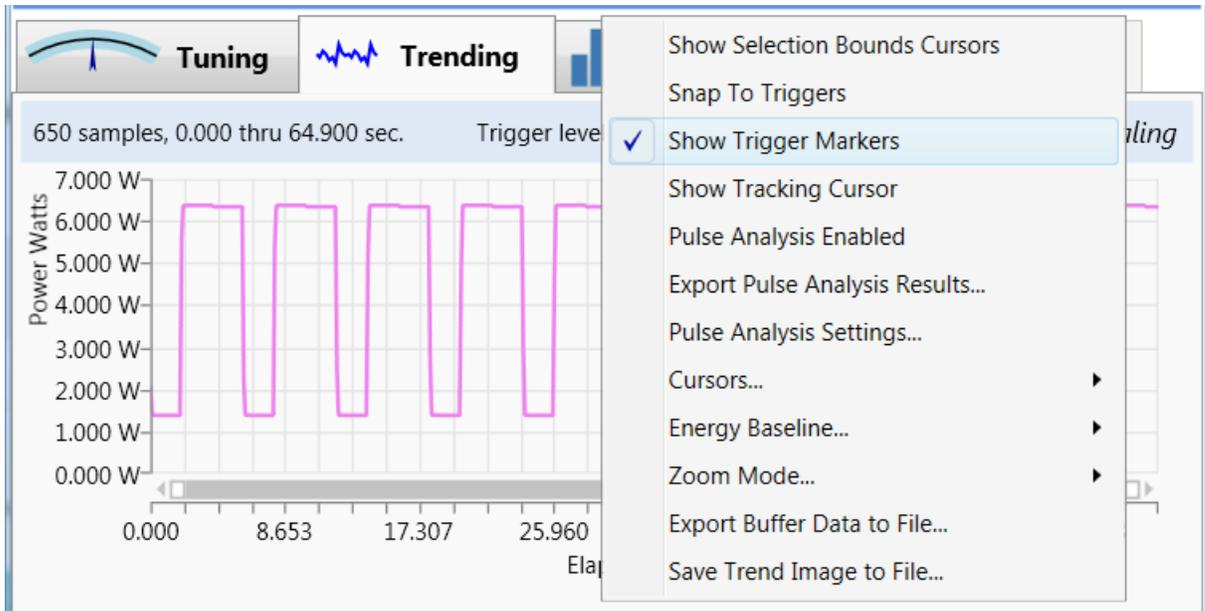

Figure 6-15. Show Trigger Markers
9. **[Trending tab]** Right-click within the Graphics viewing panel to display a pop-up menu, shown in Figure 6-15. Select **Show Trigger Markers**. This setting confirms that the meter is auto triggering on the pulses.